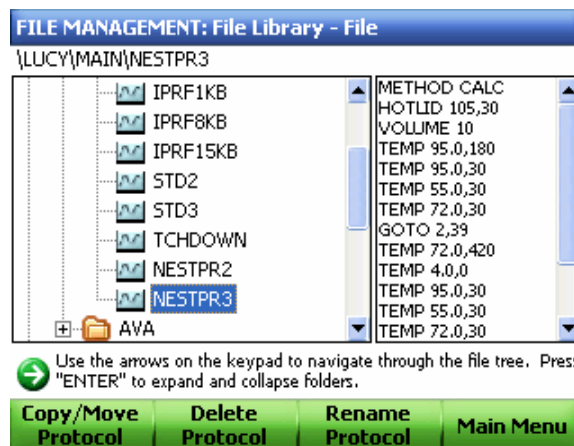

Figure 89. Select the protocol to be copied.
2. Use the up and down arrow keys to select the protocol to be copied or moved (Figure 89).